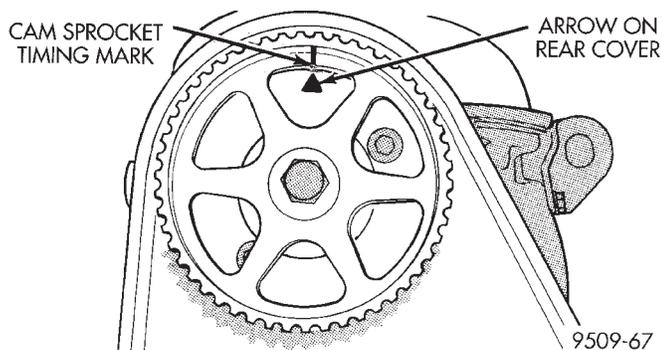

Fig. 36 Camshaft Timing Mark
(5) Set camshaft to TDC by aligning mark on sprocket with the arrow on the rear of timing belt cover (Fig. 36).
(2) Set camshaft to TDC by aligning mark on sprocket with the arrow on the rear of timing belt cover (Fig. 36).